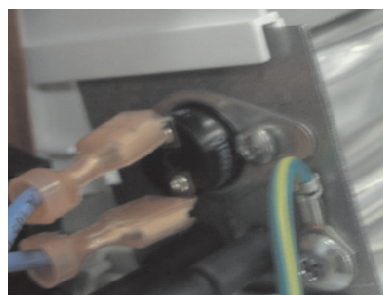

Figure 15
5. Safety thermostat for the electric heater. (See Figure 15)
3. Remove two screws that mount thermostat to heated bracket. (See Figure 15)